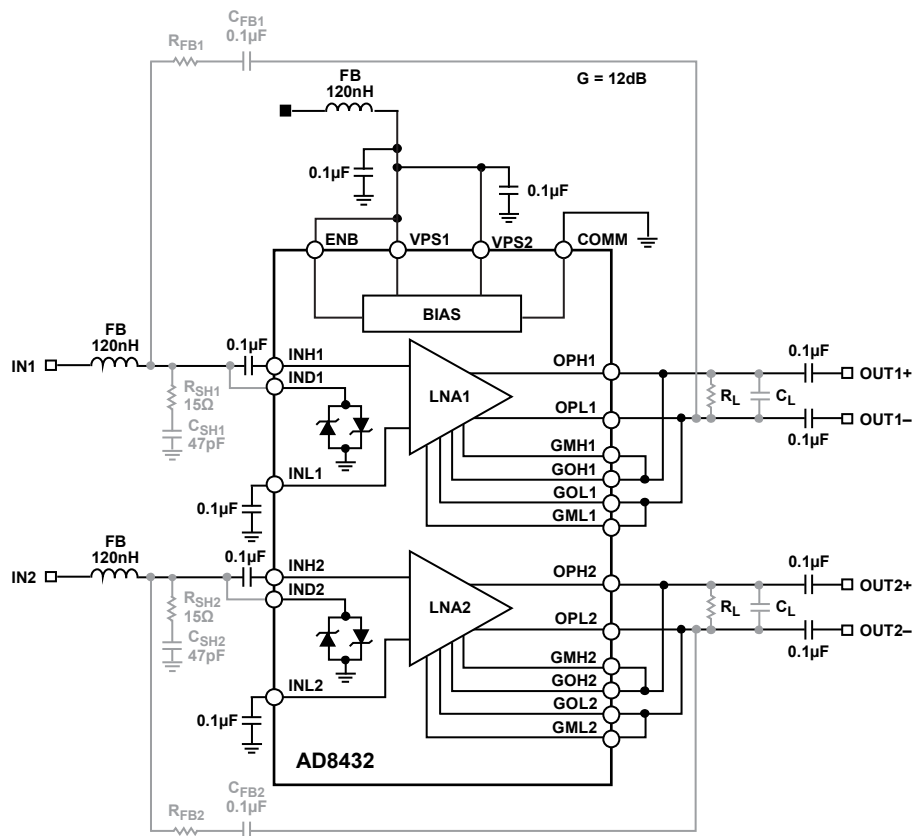

Figure 69. Typical AD8432 Setup, G = 12.04 dB
At the lowest gain (12.04 dB), the gain response exhibits some peaking at higher frequencies. A resistor-capacitor shunt network (RC) at the input (see R_{SHx} and C_{SHx} in Figure 69) is recommended to reduce gain peaking and enhance stability at higher frequencies.